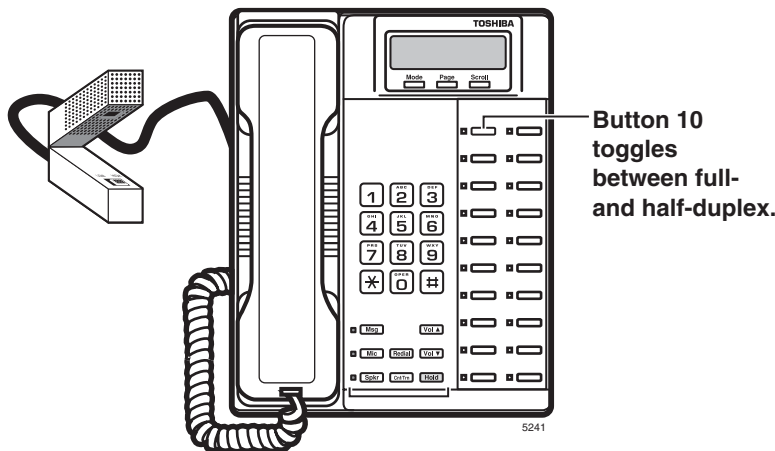

Figure 11-41 Button 10 on the Full-duplex Speakerphone
- Press button 10 (see Figure 11-41) to turn full-duplex mode On or Off.